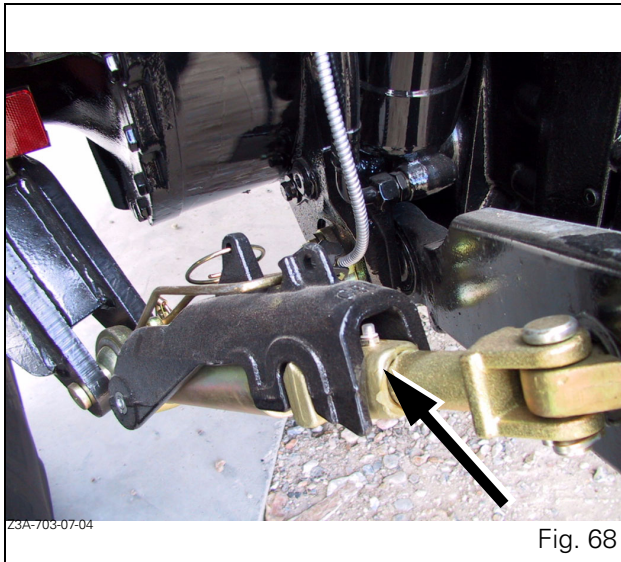

Fig. 68
- I. Unscrew stabilisers (Fig. 68) until drawbars have no lateral oscillation and are centred.